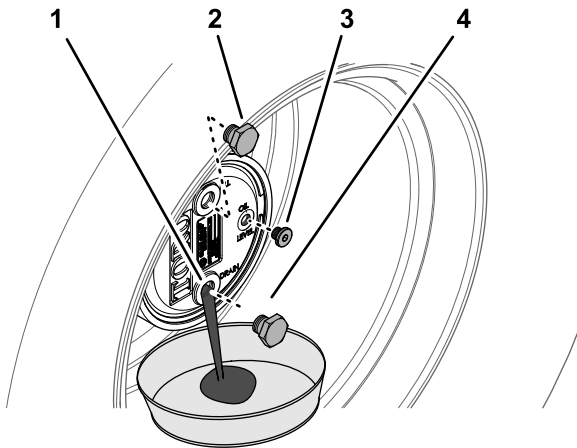

Figure 92
2. Remove the fill plug at the 12 o'clock position and the check plug at the 3 o'clock position (Figure 92).
3. Place a drain pan under the planetary hub, remove the drain plug at the 6 o'clock position, and allow the oil to fully drain (Figure 92).
5. Install the drain plug into the drain hole of the planetary housing (Figure 92).